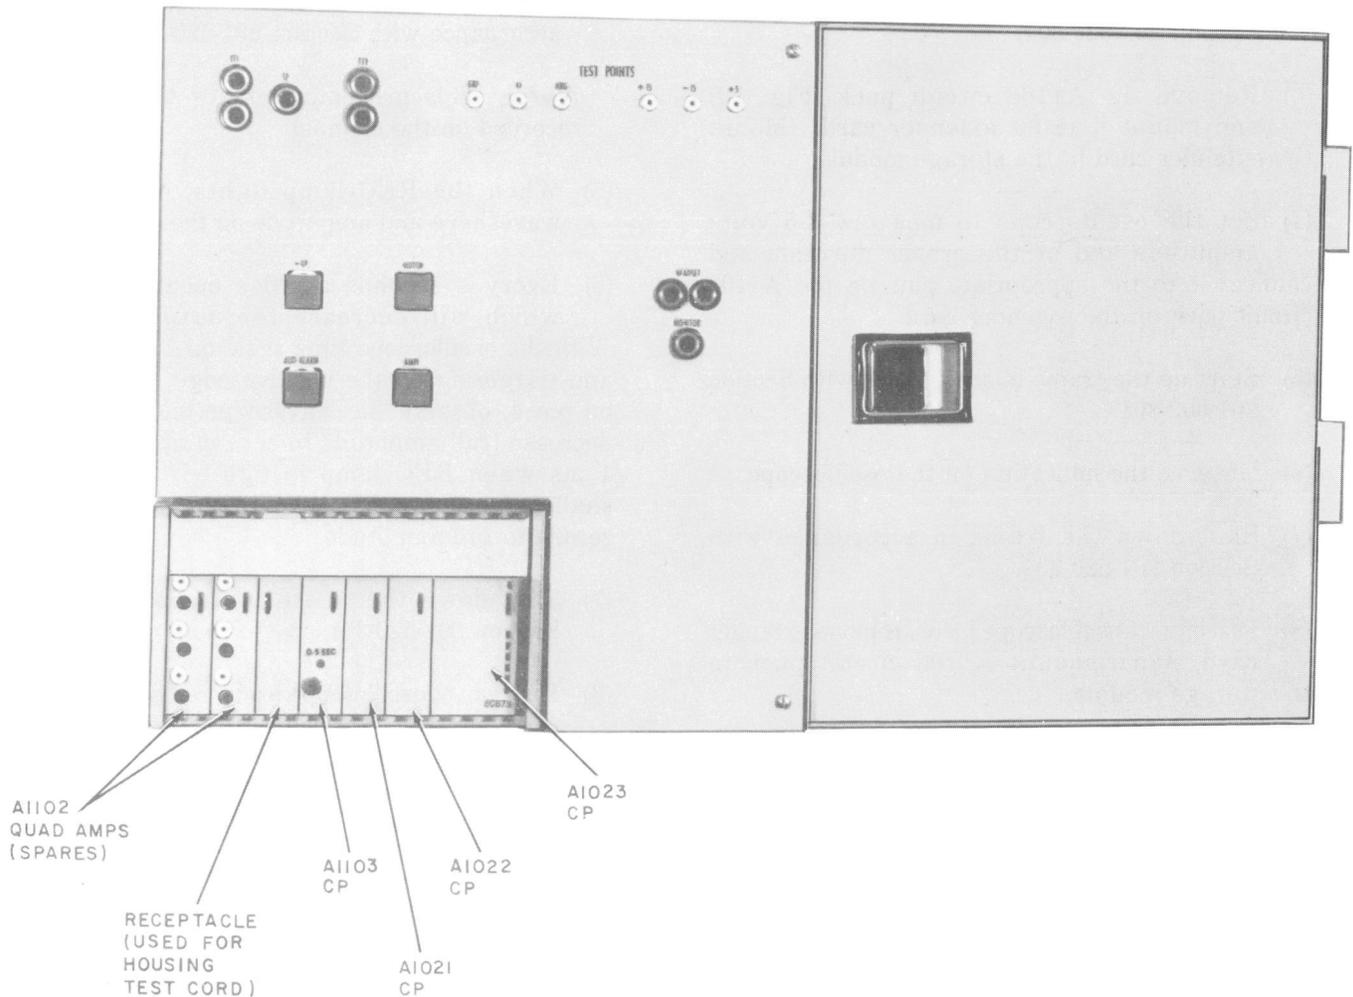

Fig. 10—Storage Module—(MSS Only)◄
- (a) When the frame is equipped with a KS-20951 L3 drum storage unit (one dual channel optical switch on the optical switch assembly), pin 2 and ground (pin 27) of A1103 circuit pack (Fig. 10) shall have a square wave alternating between minimum 3 Vdc, maximum 5 Vdc for 0.5 seconds and 0 Vdc for 0.5 seconds. Pin 5 and ground (pin 27) of the A1103 circuit pack shall have a square wave alternating between minimum 3 Vdc, maximum 5 Vdc for 1.5 seconds and 0 Vdc for 1.5 seconds.
- (1) Requirement 2.11 must be met.
- (2) Shut down the frame in accordance with Section 201-520-301.
- (3) Remove the A1103 circuit pack (Fig. 10) and mount it in an extender board. Mount the extender card in the storage module.
- (4) Set the oscilloscope to measure a pulse 3-5 volts amplitude and of the proper duration and connect it to the appropriate pins of the A1103 circuit pack on the extender card.
- (5) Start up the machine in accordance with Section 201-520-301.
- (a) When the machine is equipped with a KS-20951 L3 drum storage unit (one dual channel optical switch on the optical switch assembly), pin 15 of A1103 circuit pack (Fig. 10) and ground (pin 16), shall have a square wave alternating between +0.4 Vdc minimum for 0.5 seconds and 0 Vdc for 0.5 seconds. Pin 21 of A1103 circuit pack (Fig. 10) and ground (pin 22), shall have a square wave alternating between +0.4 V dc minimum for 1.5 seconds and 0 Vdc for 1.5 seconds.
- (3) Remove the A1103 circuit pack (Fig. 10) and mount it in an extender card. Mount the extender card in the storage module.
- (4) Set the oscilloscope to measure 3-5 volts amplitude and of the proper duration and connect it to the appropriate pins on the A1103 circuit pack on the extender card.
- (5) Start up the frame in accordance with Section 201-502-301.
- (6) Observe the indication on the oscilloscope.
- (7) Shut down the frame in accordance with Section 201-520-301.
- (8) Disconnect oscilloscope leads, remove extender card, and remount A1103 circuit pack in the storage module.
- (9) Start up the frame in accordance with Section 201-520-301.♦